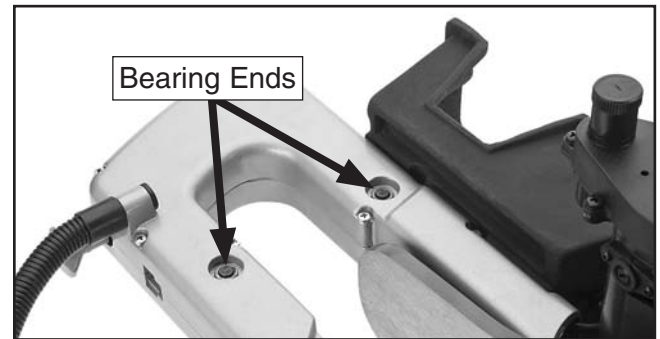

Figure 32. Plastic caps removed to expose sleeve bearing ends.
2. Remove the plastic caps over the sleeve bearings to expose their ends (see **Figure 32**).